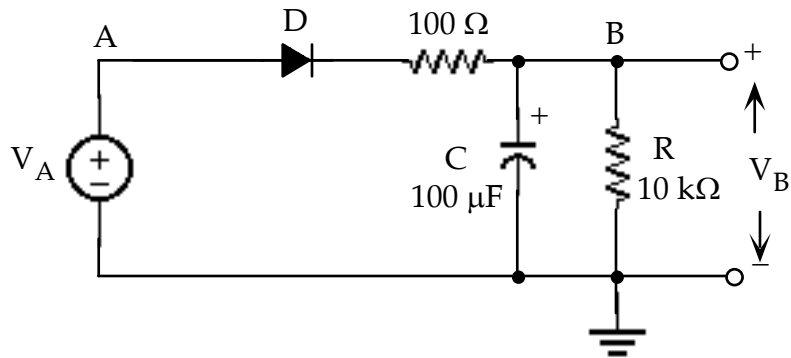

Figure 5 Rectifier Circuit #2 With Capacitor Filter
- Assemble the circuit shown in Fig. 5 using an 1N4004 diode. Use a 10 V peak 10 Hz sinewave as input. Note that 100 μF capacitor is polarized thus, its + terminal must be connected as indicated in Fig. 5. The 100 Ω resistor is added to limit the current in the diode. You can assume that it has a minimal effect on the operation of the circuit.
- Replace 10 k Ω R in Fig. 5 with a 1 k Ω resistor. Measure the waveforms at nodes A and B as in a). Record the waveforms as you did above.